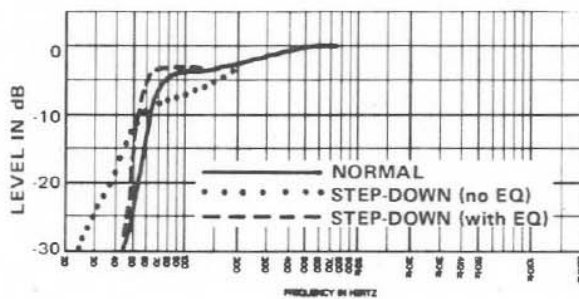

FIGURE 6
Figure 6 shows small-signal total acoustic power output versus frequency for the TL806/EVM-12S. In addition, Figure 7 shows the maximum acoustic power output versus frequency. The maximum output is limited by either (1) the thermal power handling capacity of the speaker, or (2) the speaker's maximum linear cone excursion capabilities, whichever occurs first. Note that some 2 to 3 dB of maximum output in the 80 to 130 Hz range is sacrificed when the step-down mode is used.